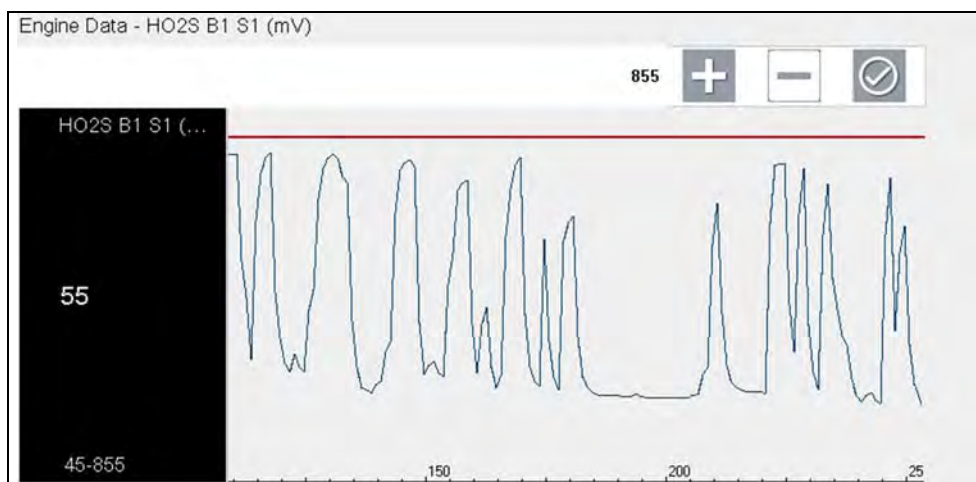

Figure 5-40 Trigger setup - upper limit
A graph of the highlighted PID and setup icons display (*Figure 5-40*).
The upper trigger point must be set first. A red horizontal line is displayed across the data graph (*Figure 5-40*) representing the upper trigger point.
4. Use the plus (+) and minus (-) icons (*Figure 5-40*), or the up ▲ and down ▼ arrow buttons to change the position of the upper trigger point.